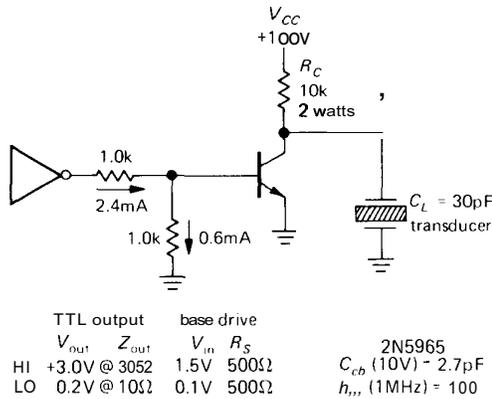

Figure 13.55
Let's begin with the circuit in Figure 13.55. It is a simple inverting stage intended for driving a piezoelectric crystal with 100 volt pulses, generated originally with TTL logic. The TTL output, and therefore the base driving signal, is roughly as indicated. In these calculations we will ignore  $r'_b$ , which is small compared with the source impedance.
(2) What is the impedance looking into a length of coaxial cable that is (a) open-circuited at the far end, and a quarter wave long, electrically, at the frequency of interest, (b) short-circuited at the far end, and a quarter wave long, electrically, at the frequency of interest, (c) same as (a), but a half wave long, (d) same as (b), but a half wave long? The result in (d) is the basis of the so-called choke joint used in waveguides.
(3) Work out in detail the rise time and fall time of the high-voltage switching circuit in Figure 13.55, as summarized in Section 13.25. Use  $V_{BE} = 0.7\text{V}$ .